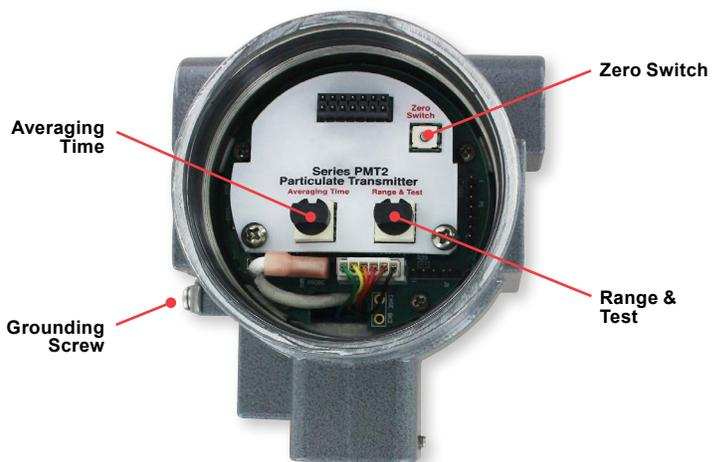

Figure 2
**Zero Switch (see Figure 2)**